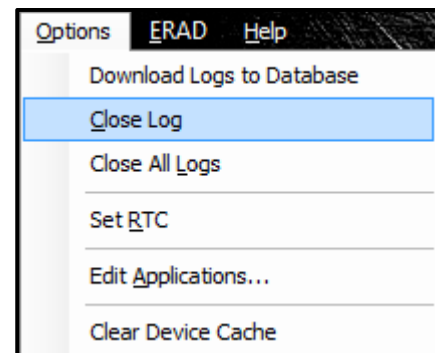

Figure 8.5-2: Close Log Option
4. Select **"Close Log"** from the Options menu (Figure 8.5-2).